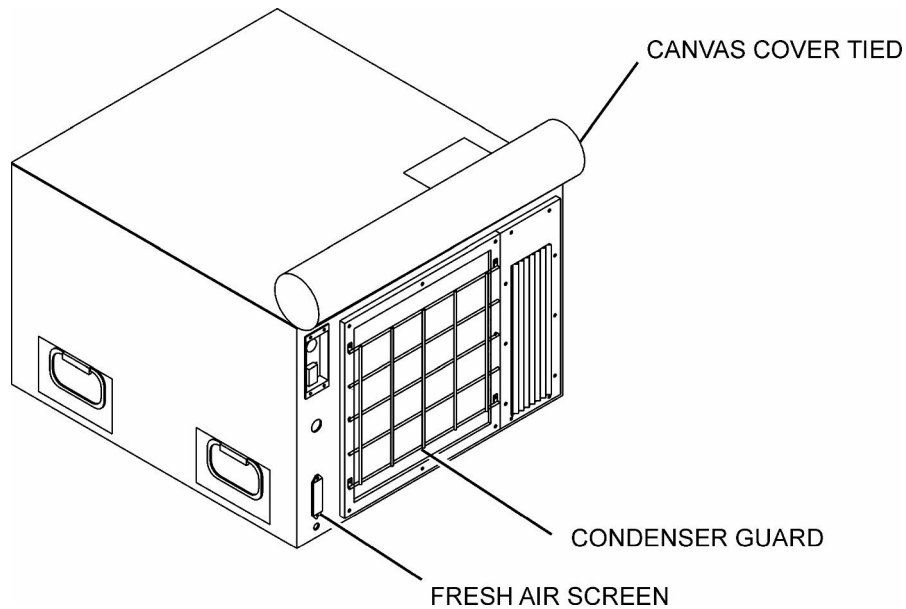

Figure 1. Screens and Guards
1. Brush off any loose dirt or foreign matter, and remove obstructions from the condenser guard and fresh air screen. See Figure 1.